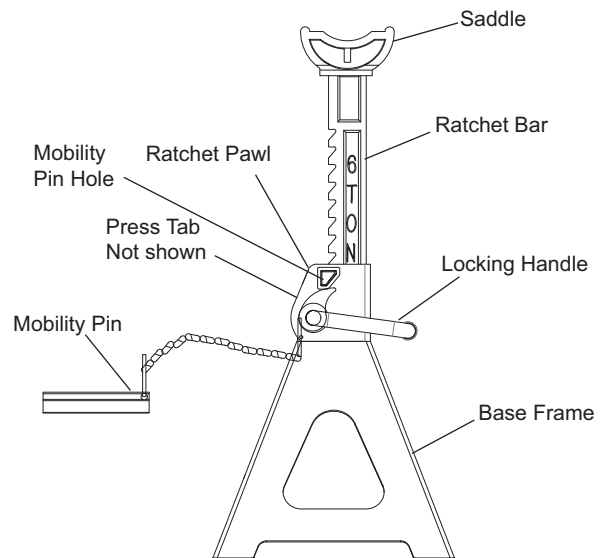

Figure 1 - Typical Jack Stand Nomenclature
3. Verify the product and your application are compatible. If in doubt, contact ATD Tools, support at (636) 327-9050.
6. Ratchet bar/collar lock is accomplished by bending the press tab (Fig.1) inward using a suitable hammer and punch. This will prevent inadvertent loss of the ratchet bar.